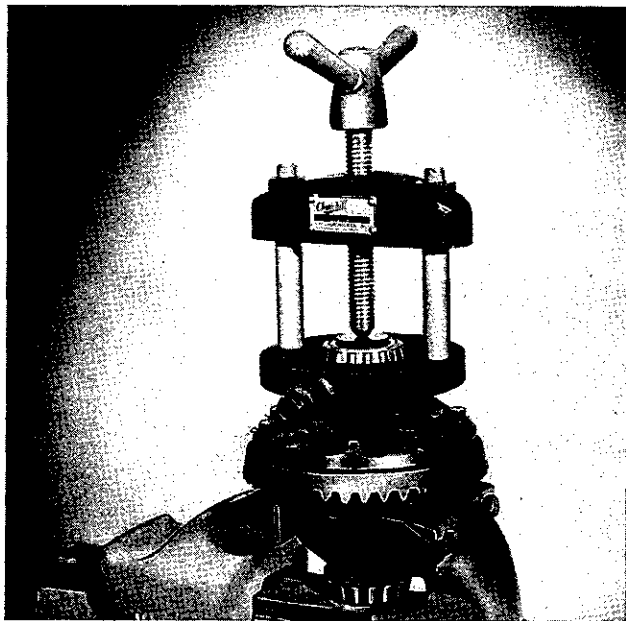

Fig. 9. Extracting Differential Bearing Inner Cone—Tool No. 2oS.85 with special extractor finger.
11. Extract the differential bearing inner races as shown in Fig. 9. (The extractor shown is specially manufactured for this purpose by Messrs. V. L. Churchill and Co. Ltd. and is the same as that used for "Vanguard" Models with longer fingers). The outer races should be paired with their respective inner portions and laid aside for reassembly or replacement if necessitated by damage or wear. The shims removed with each race should also be laid aside with the respective races as a guide when estimating the shims for reassembly. The differential may be dismantled if necessary, as directed later in this section.
18. Having decided the thickness of shims required behind each differential bearing these bearings are extracted with the special tool shown in Fig. 9. The respective shim packs are measured with a micrometer gauge after ensuring that the shims are clean and undamaged and allocated to their respective sides of the differential casing.